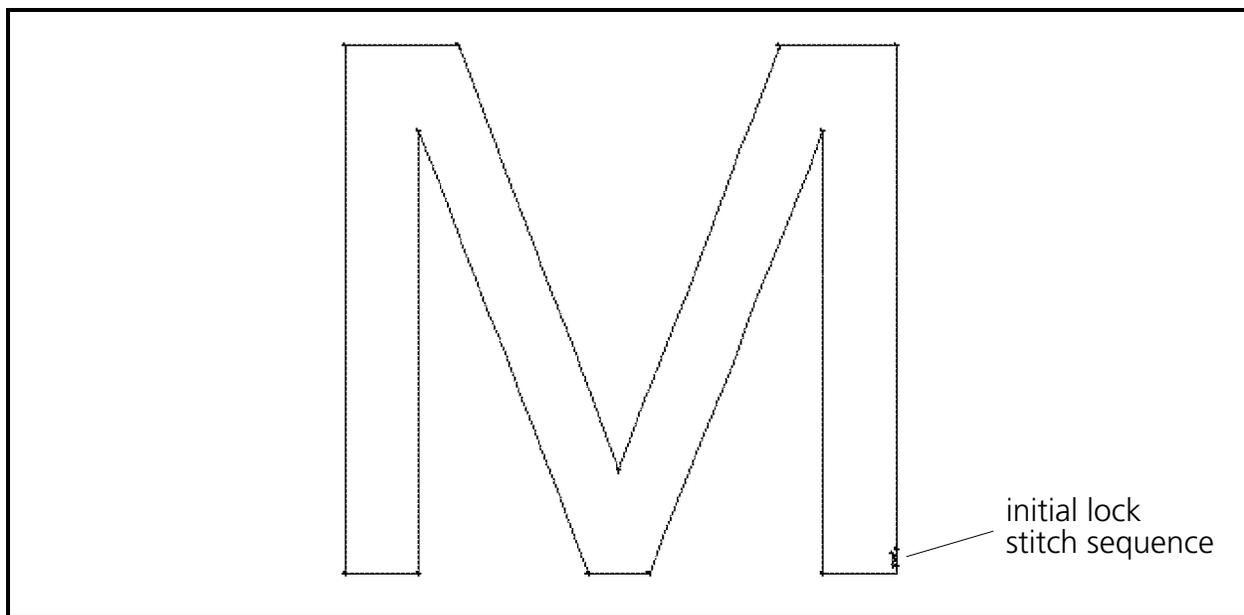

Figure 6-30
Lock stitches are used to keep the beginning or end of a digitized section from coming unraveled between color changes or with trims, and before and after a needle up. Generate lock stitches using 3 or 4 Mk1s in a back and forth zig zag motion. In our example put the lock stitch on the outside edge of the letter **M** just up from the Mk1 establishing the start point. See the Figure 6-30 for an indication of where you will be generating the lock stitches in the following steps.
1. We will begin the outline from the last Mk1 of the initial lock stitch sequence which you entered at the bottom right corner of the right leg of the letter **M** (see Figure 6-30).